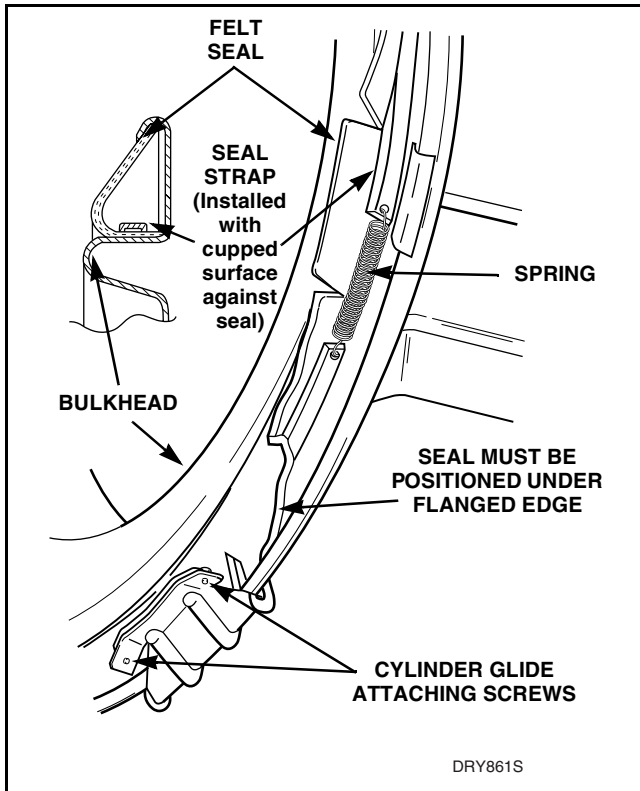

Figure 31
- Cylinder Glide** (Refer to *Figure 31*)
- Front Cylinder Seal** (Refer to *Figure 31*)
- j. Pull rear cylinder seal from under flanged edge of bulkhead. Refer to *Figure 31*.
- k. Carefully unhook spring from the seal strap. Refer to *Figure 31*.